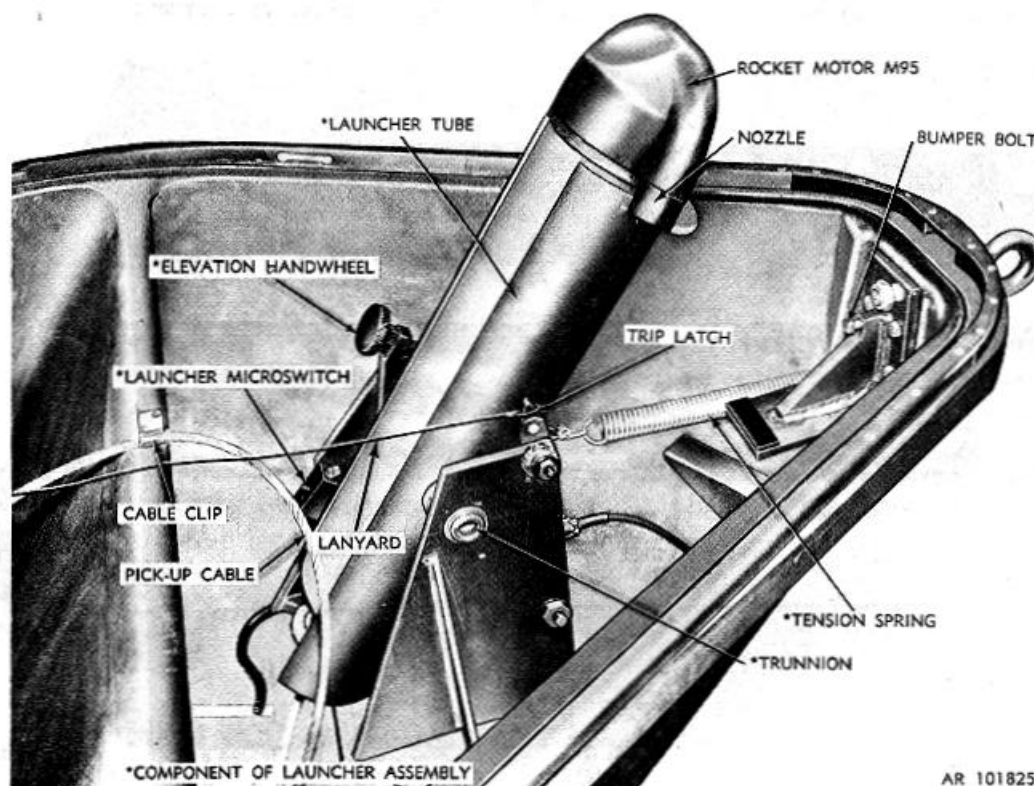

Figure 1-4. Launcher assembly and rocket motor M95 in elevated position.
(1) The front compartment of the hull houses the linear charge propulsion system (b below).
(2) The center compartment houses the linear demolition charge (c below).
(3) The accessory (rear) compartment serves to house and carry the various accessories used with the kit (d below) and provides access for fuzing the linear demolition charge.
b. Linear Charge Propulsion System. The linear charge propulsion system located in the front compartment of the hull consists of a launcher assembly and a rocket motor M95 (fig. 1-4).
(1) The launcher assembly (fig. 1-4) is composed of a launcher tube mounted on trunnions which support and elevate rocket motor M95 for firing. A trip latch mounted on the right trunnion locks the launcher tube in a horizontal position when the main cover is on the hull. Removal of the cover releases the trip latch and automatically permits the launcher tube and the contained rocket motor to elevate. Automatic elevation is accomplished by a connected tension spring; the amount of elevation permitted is controlled by an elevation preset mechanism which is mounted on the left side of the tube. A change of elevation may be made whenever required by rotation of the elevation handwheel. A launcher microswitch, mounted on the left side of the launcher assembly provides an open circuit when the tube is horizontal and, as an added safety feature, the rocket motor side of the switch is shorted out until elevation of the tube is accomplished. The switch provides a closed circuit for the electrical firing of the rocket motor from the launcher tube when the tube is elevated.
(2) Rocket motor M95 (fig. 1-4), mounted in the launcher tube of the launcher assembly, is electrically ignited after elevation of the tube. After ignition, the rocket motor is restrained